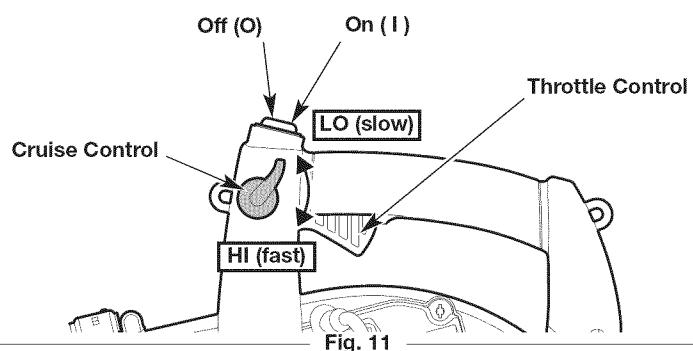

Fig. 11
**NOTE:** There is no need to turn the unit on. The On/Off switch is in the ON (I) position at all times (Fig. 11).
4. Move the cruise control to the **LO (slow)** position (Fig. 11).
- NOTE:** Keep the cruise control in the **LO (slow)** position and **DO NOT** squeeze the throttle control until step 9 (Fig. 11).
8. **DO NOT** squeeze the throttle control. Idle the engine for 5 to 10 seconds. If the unit stops during this time: Squeeze and hold the throttle control or move the cruise control to the **HI (fast)** position (Fig. 11). Pull the starter rope with a controlled and steady motion until the unit starts.
9. Squeeze and hold the throttle control or move the cruise control to the **HI (fast)** position (Fig. 11). Allow the engine to warm up for 30 to 60 seconds.
2. Press and hold the On/Off switch in the **OFF (O)** position until the engine comes to a complete stop (Fig. 11).
**NOTE:** Keep the cruise control in the **LO (slow)** position and **DO NOT** squeeze the throttle control until step 11 (Fig. 11).
10. **DO NOT** squeeze the throttle control. Idle the engine for 5 to 10 seconds. If the unit stops during this time: Squeeze and hold the throttle control or move the cruise control to the **HI (fast)** position (Fig. 11). Run the Speed Start™ accessory in intervals no longer than 2 seconds each until the unit starts.
11. Squeeze and hold the throttle control or move the cruise control to the **HI (fast)** position (Fig. 11). Allow the engine to warm up for 30 to 60 seconds.
- Use the cruise control to make continuous operation easier (Fig. 11).